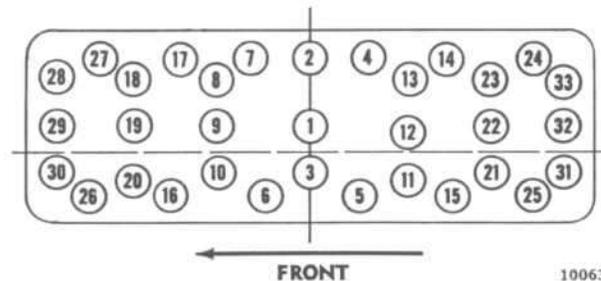

FIG. 92—CYLINDER HEAD BOLT TIGHTENING SEQUENCE
- b. Install the two modified bolts as guide pins in the cylinder block holes numbered 24 and 26 in Fig. 92.
- e. Install the cylinder head bolts and tighten them down snugly in the sequence indicated in Fig. 92. Remove the two guide pins installed in Step b. Complete tightening of the head bolts by using a torque wrench to tighten the bolts in the proper sequence to the specified torque of 35-45 foot pounds [4,8-5,5 kg-m.].